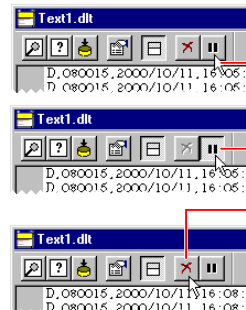

FIGURE 64 Learn more about the text window
- Carry out the numbered steps in Figure 64 to learn more about the text window.